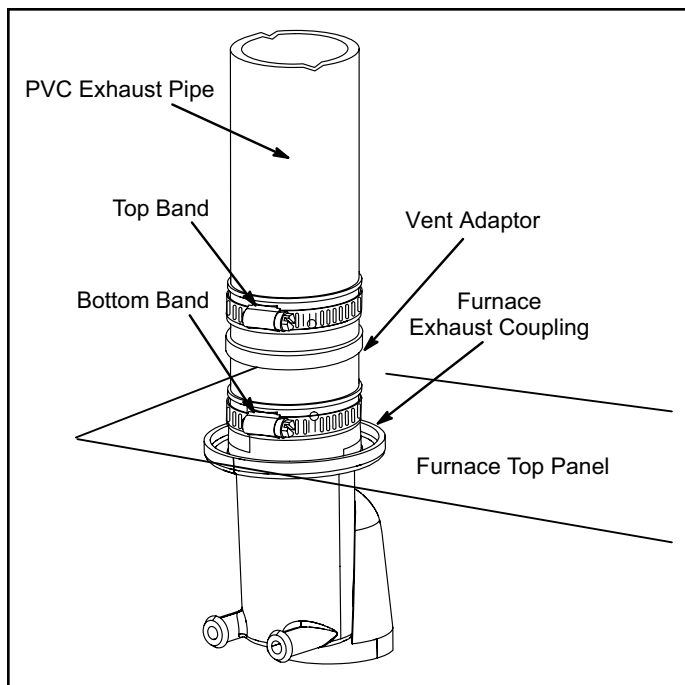

Figure 23. Appliance Adaptor to Exhaust Coupling
NOTE: Exhaust coupling must be installed with provided appliance adapter. See Figure 23.
See Figure 23, Figure 26 and Figure 27
4. Tighten both top and bottom bands to 40 in-lbs. See Figure 23.